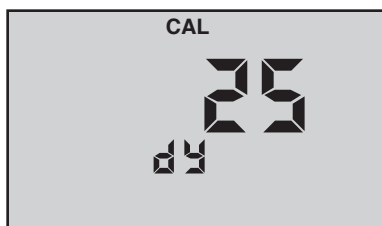

Figure 12
9. Press  to accept the change (new day) (see Figure 12 next page).